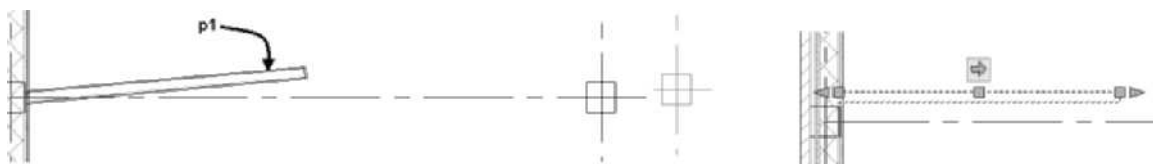

FIGURE 2.61 Horizontal constraint applied to wall
10. The interior wall shown at **p1** shown in Figure 2.61 is currently rotated 5 degrees. In this step you will use the Horizontal constraint to modify the interior wall to the horizontal position. Select the interior wall at **p1** as shown in Figure 2.61 to display the Wall contextual tab.
Select an object or [2Points]<2Points>: (Select the wall at **p1** as shown in Figure 2.61.)
Wall is positioned to horizontal as shown in Figure 2.61.